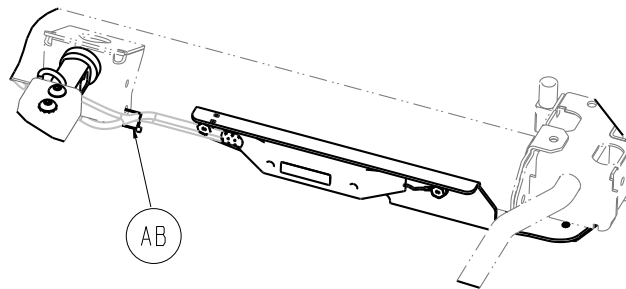

Figure 40 – Cable tie location - IR/nurse call assembly
8. Using wire cutters, cut the cable tie (AB) that secures the IR/nurse call assembly cable to the head end lift header ground wire on the patient right side (Figure 40). Discard the cable tie.
- d. Using a ratchet and 1/2" socket, install the remaining hex washer head thread rolling screw (AG) (removed in step 10) to secure the foot end of the IR/nurse call assembly.
- e. Using a torque wrench, torque the hex washer head thread rolling screws (AG) to 168 ± 24 in-lb (14 ± 2 ft-lb).
13. Using a supplied 8" cable tie (3000-300-113) (AB), secure the IR/nurse call assembly cable to the litter frame (Figure 40).